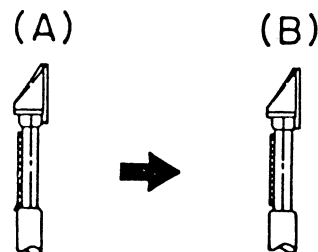

Fig. 3 Tape guide check
2. Adjust the A/C tilt adjusting screw until tape wrinkle is caused at the lower flange of tape guide as shown in Fig.3 (A).
3. Turn the A/C tilt adjusting screw counterclockwise until the tape travels along the lower flange as shown in Fig. 3 (B).